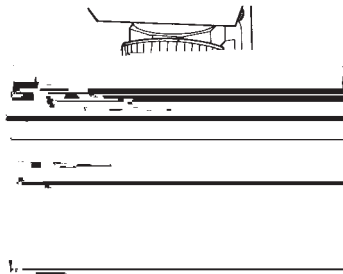

Fig. 4.2
- Place a specimen slide on the stage. Make sure the slide is not placed upside down. Secure the slide to the slide holder of the mechanical stage (Fig. 4.2).